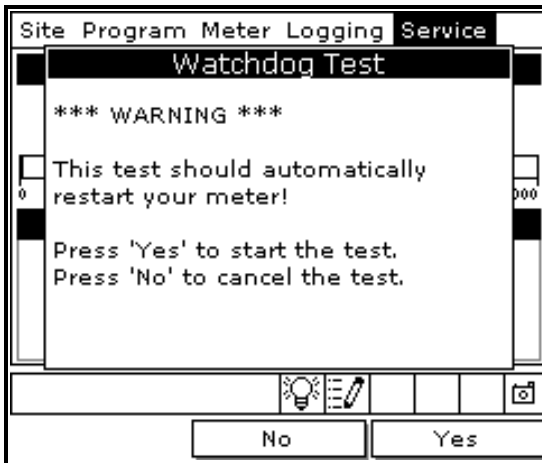

Figure 64: Watchdog Test Screen
4. Use the arrow keys to scroll to **Watchdog Test** and press [ENTER]. The screen appears similar to Figure 64.